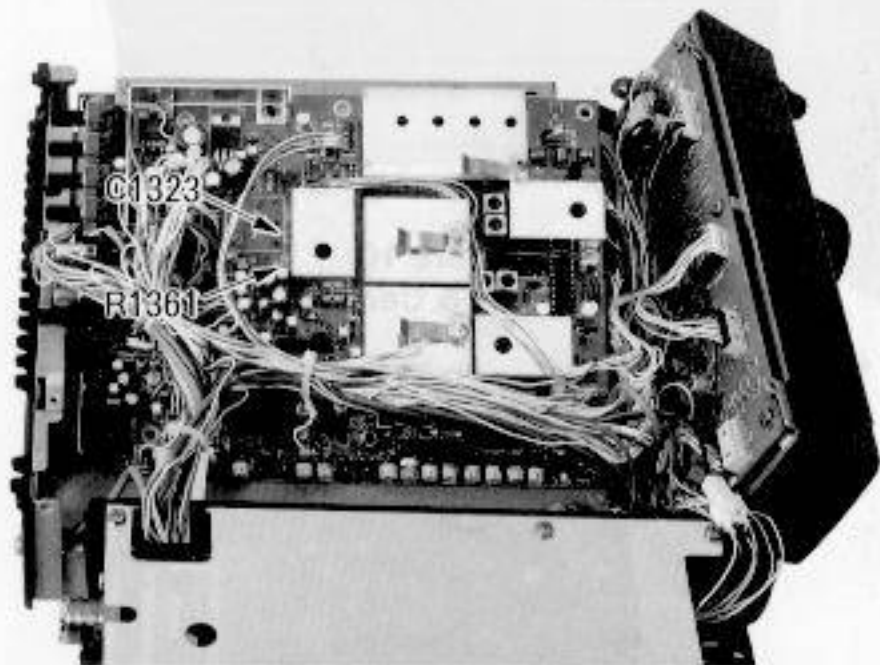

Figure 8: Local Unit Components to Remove
- Remove the seven screws shown in Figure 6 (note that one is next to the DVS-2 jack on the rear panel), and also remove the upper one of the two screws on either side of the front panel (Figure 7) and loosen the lower one (on each side), allowing the front panel to be folded forward so that the Local Unit can be lifted as shown in Figure 8 (next page).
- Referring to Figure 8, locate capacitor C1323 and resistor R1361 on the board just behind the oscillator housing. Cut the leads of these parts and remove them.